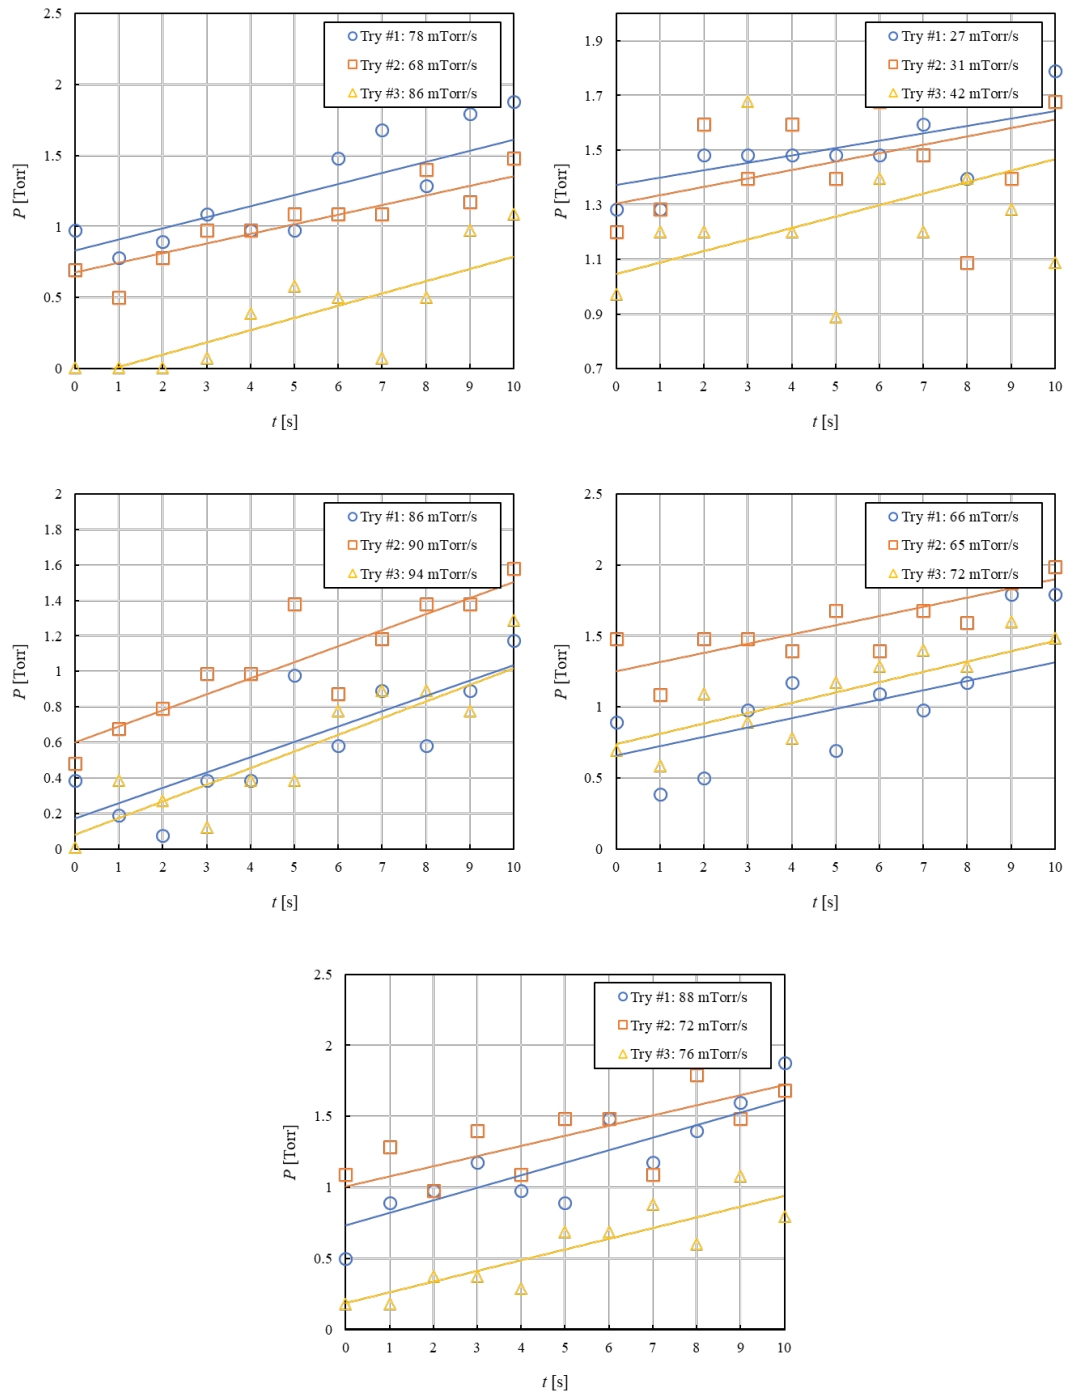

Figure 3.1 Pressure rising after closing the solenoid valve (SV) for (a) Lumen #1, (b) Lumen #2, (c) Lumen #3, (d) Lumen #4, and (e) Lumen #5.
- (7) All the data were recorded and plotted in Figure 3.1 and Figure 3.2.